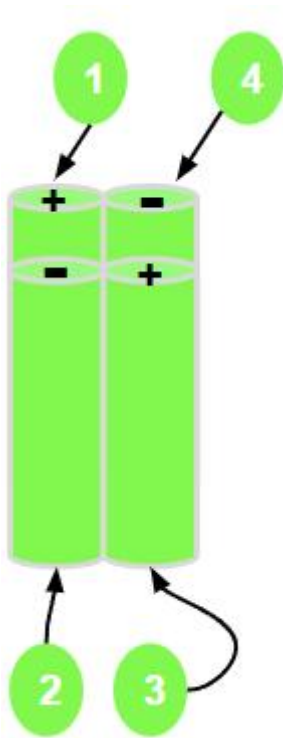

Figure 1: Arrangement of 4 Samsung 50S 21700 cells in series with Kapton tape
- 4.1.2. Arrange the 4 cells in series (positive to negative) in a straight line, ensuring proper polarity. Secure the cells temporarily with Kapton tape to prevent movement during assembly, as shown in Figure 1.